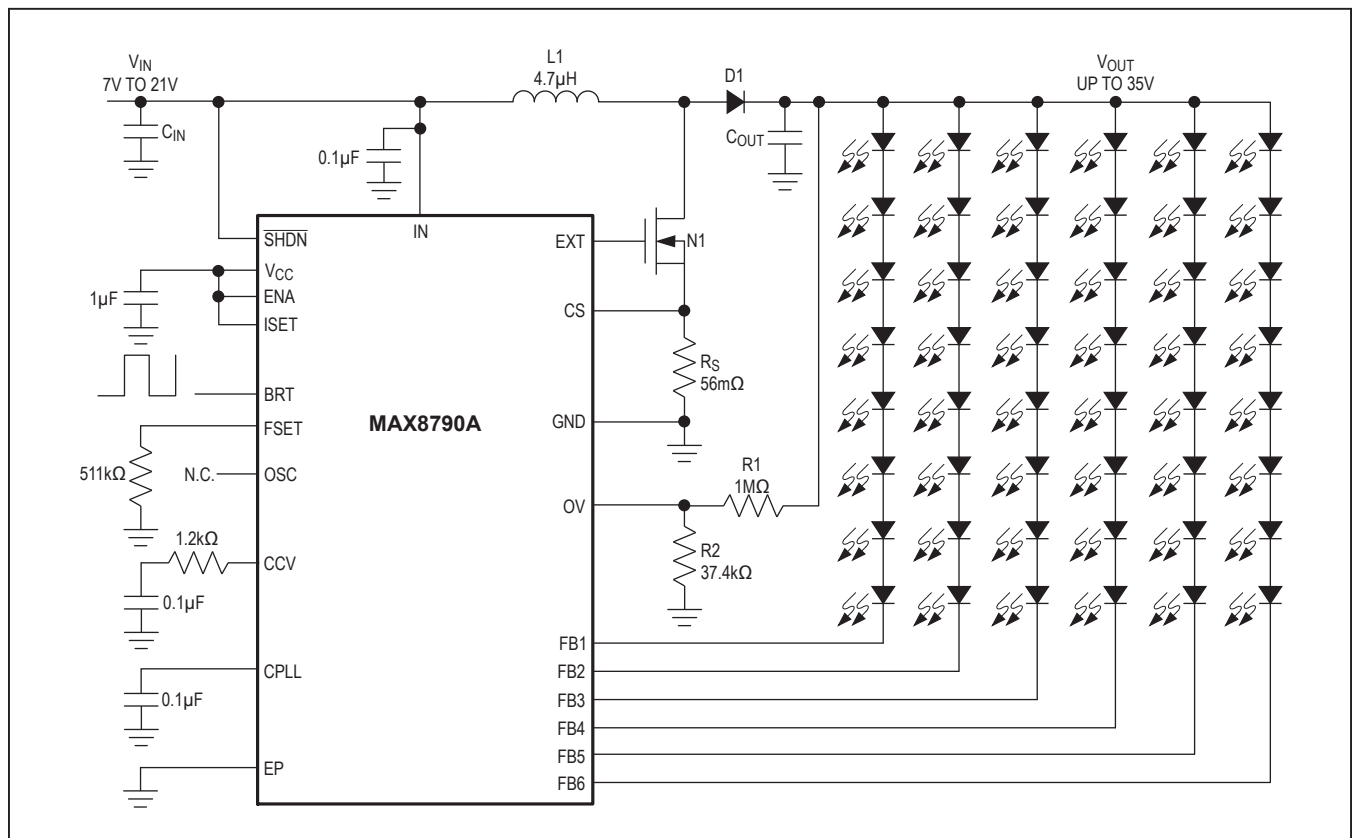

Figure 1. Typical Operating Circuit
Electrical Characteristics (continued)(Circuit of Figure 1. $V_{IN} = 12V$, $V_{\overline{SHDN}} = V_{IN}$, $CCV = 0.1\mu F$, $T_A = -40^{\circ}C$ to $+85^{\circ}C$, unless otherwise noted.) (Note 2)
To protect the step-up converter when the load is open, or the output voltage becomes excessive for any reason, the MAX8790A features a dedicated overvoltage feedback input (OV). The OV pin is connected to the center tap of a resistive voltage-divider from the high-voltage output (see Figure 1). When the MAX8790A is powered up, if none of the LED strings on FB1–FB6 are connected to the step-up converter output, the step-up converter regulates the output voltage to $V_{\text{OUT}} = 1.23\text{V}(1 + R1 / R2)$. When V_{OV} exceeds 1.23V, a comparator turns off N1. The step-up converter switch is reenabled after the output voltage drops below the protection threshold.